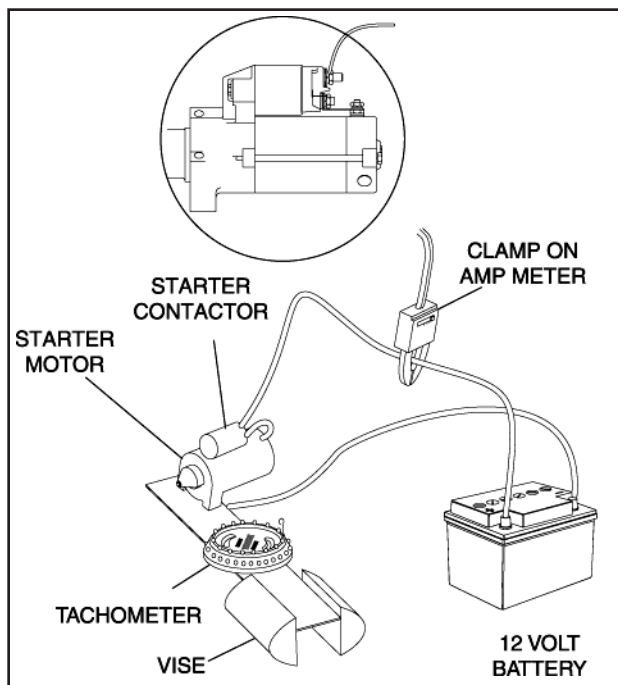

Figure 15. Testing Starter Motor Performance
It is recommended that the starter motor be removed from the engine when testing starter motor performance. Assemble starter to test bracket and clamp test bracket in vise, Figure 15.
2. Connect jumper cables and clamp-on ammeter as shown in Figure 15.